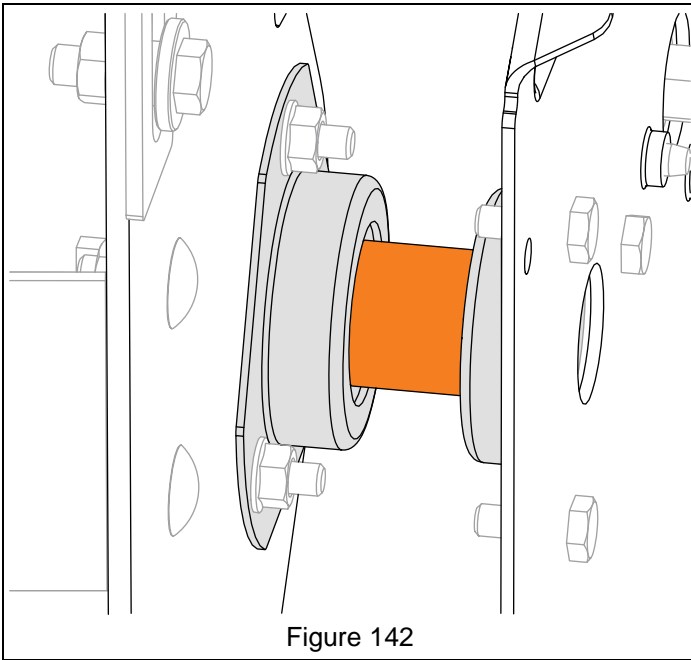

Figure 142
10. Remove sleeve bushing seated between bearing flanges on side plate and frame. See Figure 142.